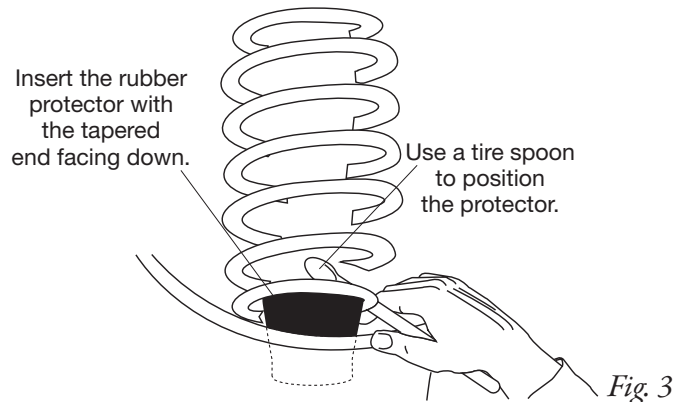

Fig. 3
1. Install the lower protector (C) (Fig. 3) by dropping it through the upper coil spring seat with the tapered side facing down. Set the protector securely in place with a spoon-type tire iron.